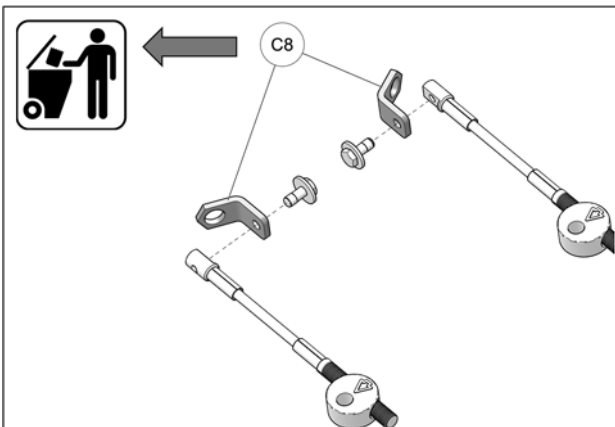

Fig. 14
7. 2015 and later front track systems: Stabilizing arms have an integrated Steering Limiter holding plate. It is not necessary to install the holding plates (C8) provided in the Steering Limiter kit. See Fig. 14